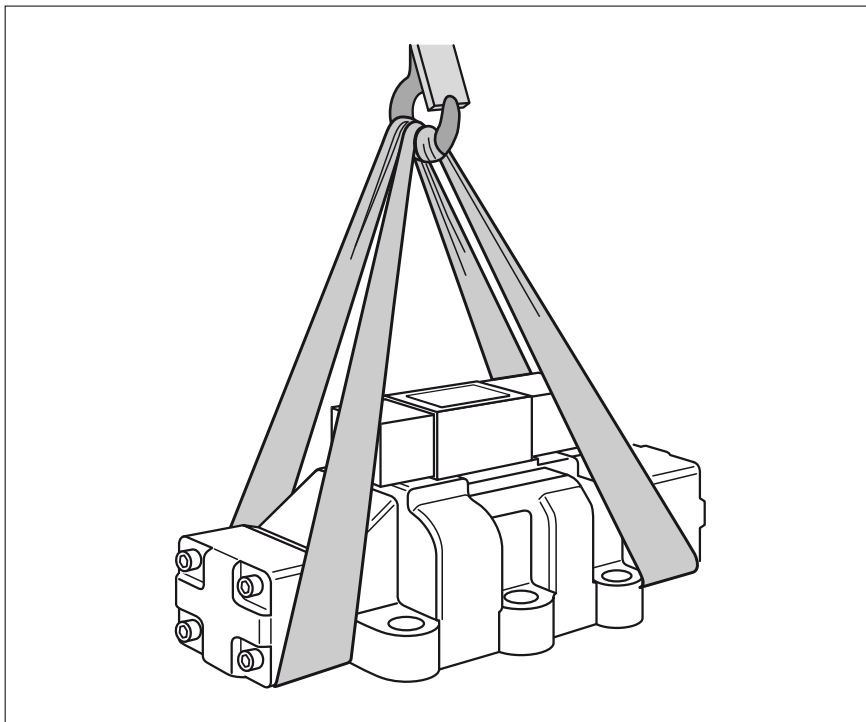

Fig. 3: Position of the lifting strap
- Put a transport belt around the valve so that it does not lie over the attachment parts (e.g. pilot control valve and spool position monitoring), see figure 3.